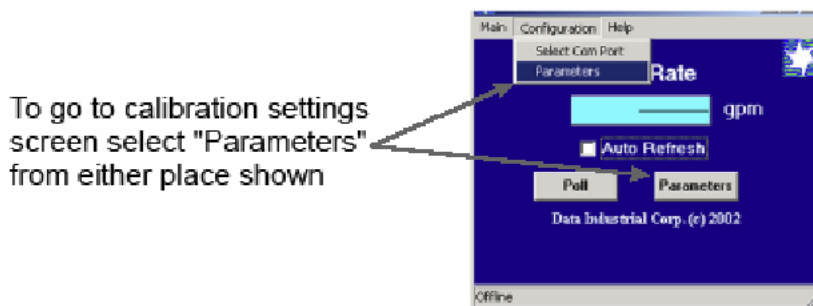

Figure 6: Select Parameters
5. Select **Parameters** as shown in Figure 6 to open the Parameters screen.